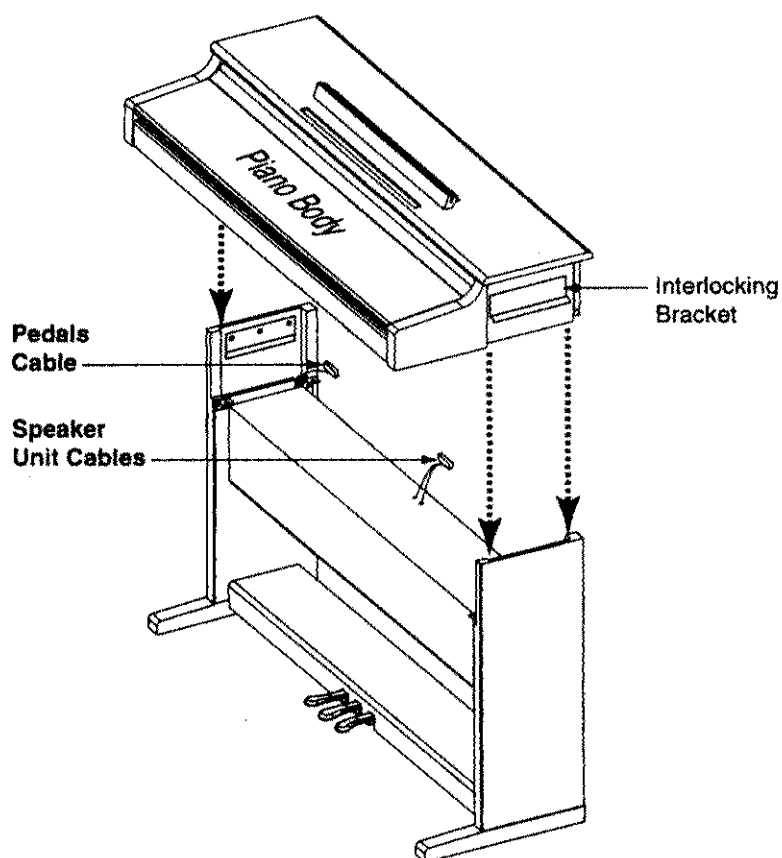

Figure 6. Completed Stand with Piano Body placement.
19. With your friend's help, place the Piano Body on top of the Stand as shown in Figure 6. Lower the Piano Body so that the Interlocking Brackets on each side fit into the Brackets on the Left and Right Legs.